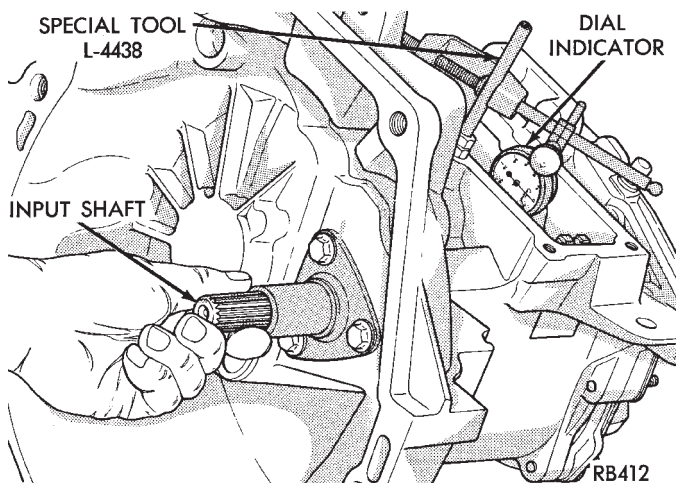

Fig. 1 Checking Input Shaft Bearing End Play to Determine Shim Thickness
(4) Oil input shaft bearings with SAE 5W-30 engine oil and install input shaft in case. Install bearing retainer plate with input shaft rear bearing cup pressed in and bearing support plate installed. Tighten all bolts and nuts to 28 N•m (21 ft. lbs.).
(5) Position dial indicator to check input shaft end play. Apply moderate load, by hand, to input shaft splines (Fig. 1). Push toward rear while rotating input shaft back and forth a number of times to settle out bearings. Zero dial indicator. Pull input shaft to-